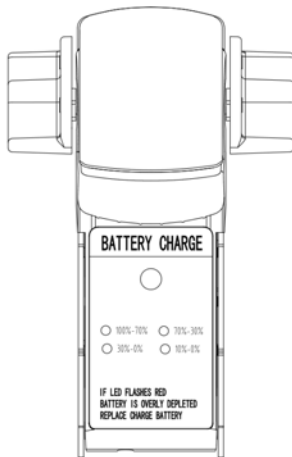

Figure 10
- 8.2.1 When red light of LED on the handle controller flashes, the truck will alarm and be unable to start. It needs charging. Refer to Figure 10.